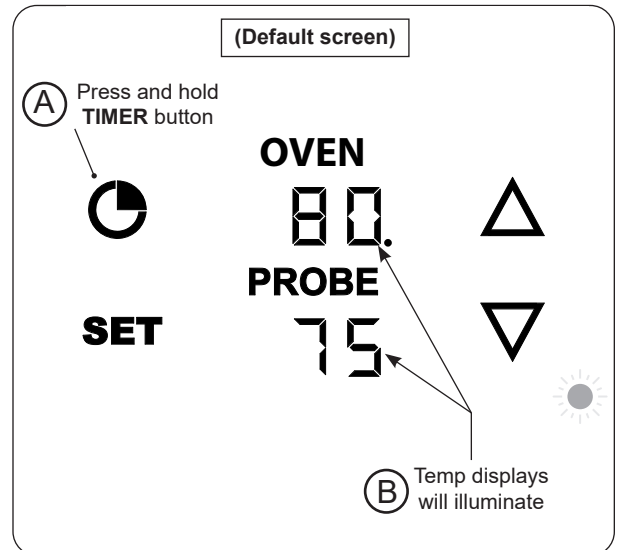

Fig. 37-1 Turn on thermometer/thermostat
3. Press and hold the **TIMER** button (Fig. 37-1, A) until the remainder of the displays illuminate (Fig. 37-1, B). This is the “**default screen**”. The default screen displays your temperatures. The top display is the OVEN temperature, and the bottom display is the meat probe temperature (if plugged in).